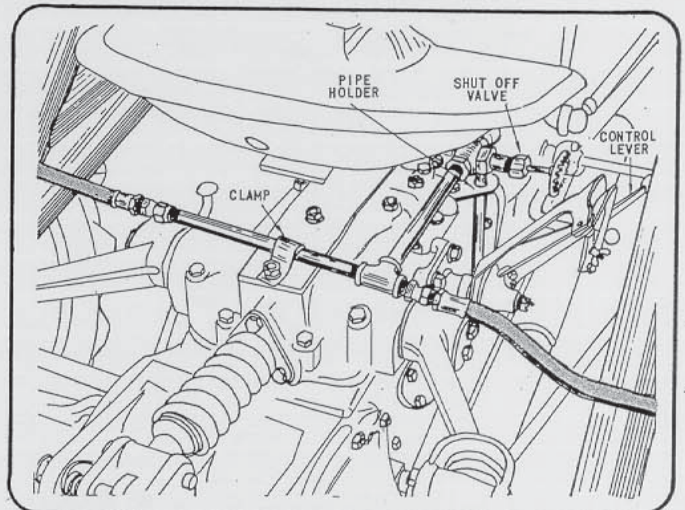

Figure 3 - Tractor Hydraulic System Mounting WM1 Only (Ford 8N, 9N, Ferguson TE)
2. Insert connector in tractor transmission. Connect  $\frac{3}{8}$ " pipe 18" long to connector. Secure pipe to top of tractor transmission with pipe holder (Figure 3).